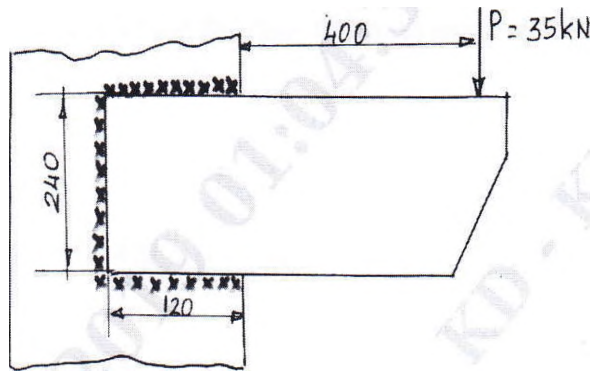

Fig.Q8(a)
- 8 a. A steel plate is welded by fillet welds to a structure and is loaded as shown in Fig.Q8(a). Calculate the size of the weld, if the load is 35 kN and allowable shear stress for the weld material is 90 MPa.